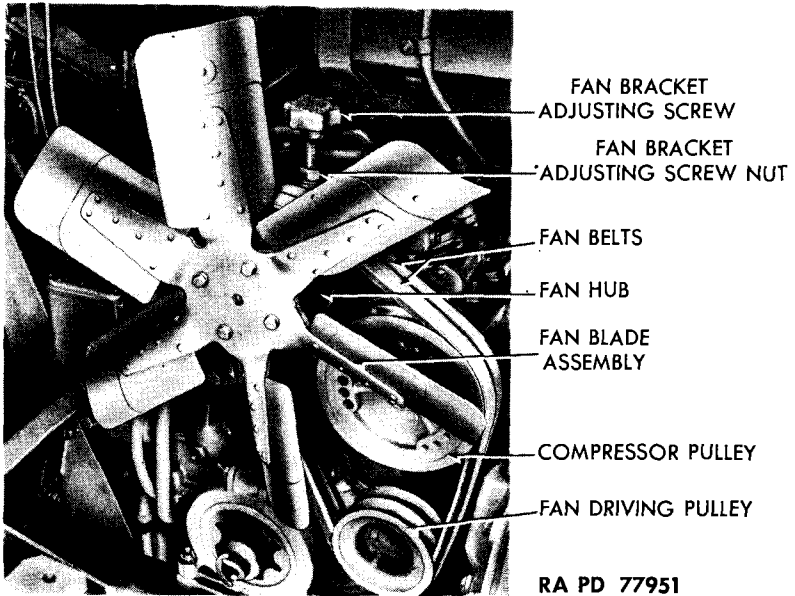

Figure 42 — Fan and Belts Installed
(1) DESCRIPTION (fig. 42). The fan is the roller-bearing type mounted on a bracket at front of engine and belt driven by a pulley on the engine accessory shaft.
(2) TABULATED DATA.
(5) **REMOVE FAN BLADE ASSEMBLY** (fig. 42). Remove four cap screws that secure fan blade assembly to fan hub. Lower fan blades through space between radiator and motor. Take off gasket.
(1) **INSTALL FAN HUB AND PULLEY** (fig. 42). Install fan hub and pulley by fastening bracket to engine with three hex screws and one slotted countersunk screw. Install fan belts.
(2) **INSTALL FAN BLADE ASSEMBLY** (fig. 42). Install fan blade assembly, using a new gasket, and secure assembly to hub with four hex screws. Turn fan adjusting screw to tighten fan belts until they have 1/2-inch play. Tighten fan adjusting screw lock nut. Tighten fan bracket clamp nut.
(1) **DESCRIPTION** (fig. 42). Two V-type fan belts are mounted on grooved pulleys connected to fan, air compressor, and accessory drive shaft, and drive the fan and air compressor. Belts are rubber and fabric composition.
b. Adjustment (fig. 42). Loosen fan bracket adjusting screw nut, and fan spindle jam nut. Turn fan bracket adjusting screw clockwise to tighten, counterclockwise to loosen. Deflection permissible is between $\frac{1}{2}$ inch and $\frac{3}{4}$ inch. After adjustment is made, tighten bracket adjusting screw nut and spindle jam nut.
c. Removal (fig. 42). Loosen bracket adjusting screw nut and spindle jam nut, and turn adjusting screw to force spindle down. Lift belts from pulleys.
d. Installation (fig. 42). Position belts on pulleys. Turn adjusting screw until belts can be flexed from $\frac{1}{2}$ inch to $\frac{3}{4}$ inch at mid-position when pressed with fingers. Tighten adjusting screw nut and spindle jam nut.